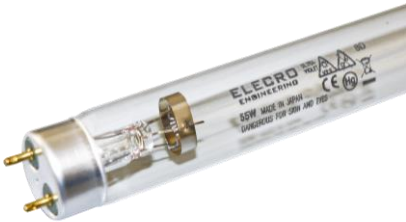

Fig. 1
- Changing of lamps(s) if necessary. Fig. 1.